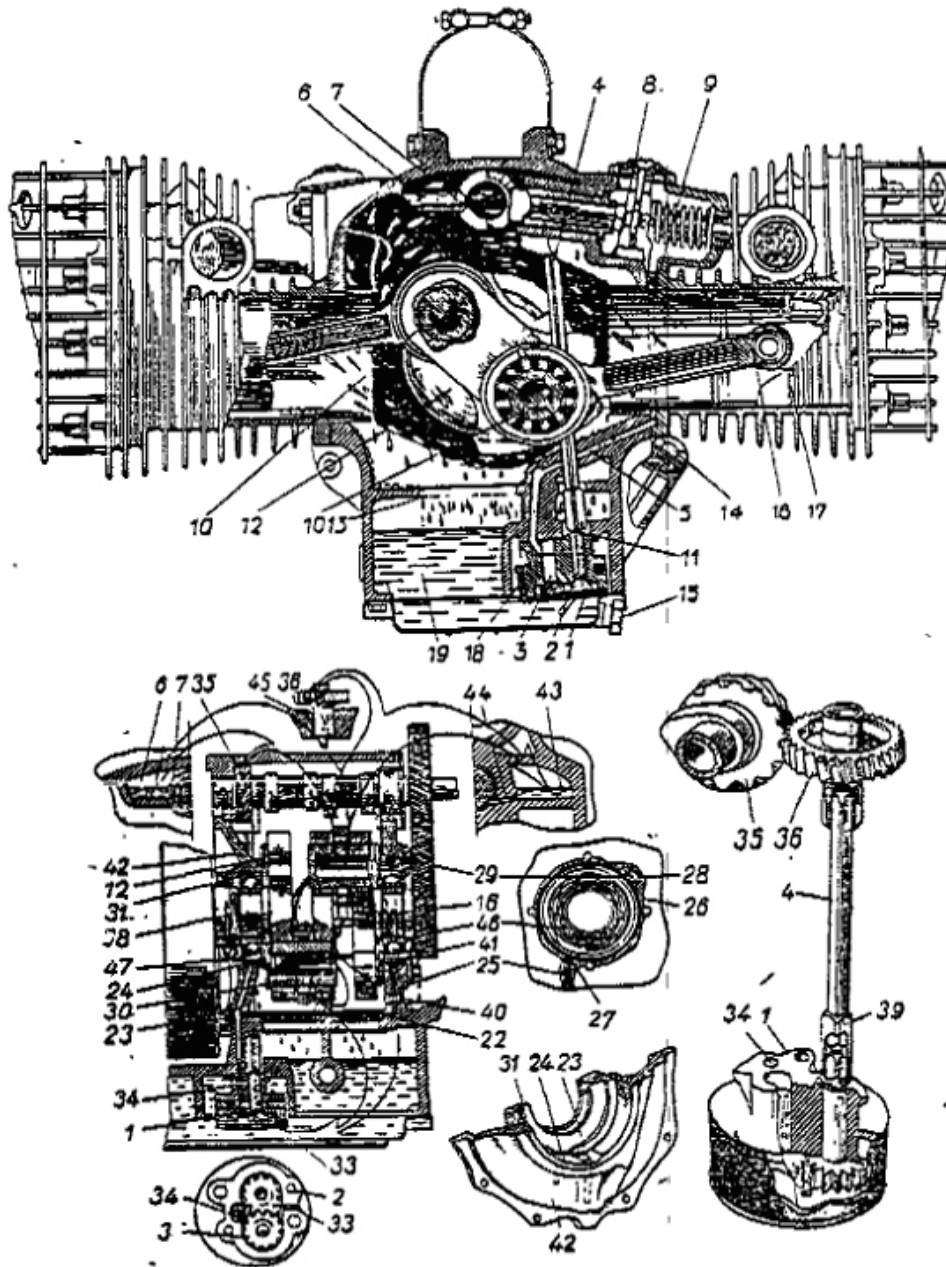

Fig. 6
The lubrication system of the engine is a combined pressure and spraying system. A total lubrication pattern of the engine is shown in fig. 6. The steel oil pan forms the main oil reservoir. The oil is carried from the oil pan by means of a gear pump through the mesh filter (18).